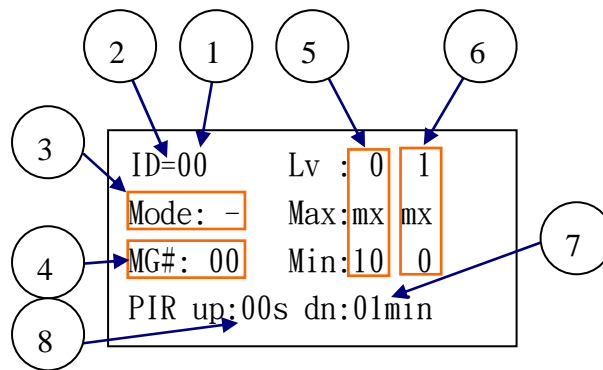

Figure 2.8: The LCD display showing PIR parameters of target devices
When the PIR sensor is equipped, user can define PIR parameter for power-on state. Please refer to Figure 2.8 and follow the steps described below.
- (1) Select ID number (0~63) of the target device.
- (2) Press the “OK” button. You can read the PIR power-on parameter of the target device with ID determined from position ① in Figure 2.8.
- (3) The location arrowed by ③ in Figure 2.8 represents the PIR working mode at power on.
- (4) The location arrowed by ④ in Figure 2.8 represents the Master Mode Group Number, which means that when PIR sensor is active, illumination of all DALI devices in group ④ will be enhanced. This setting affects only when ③ is defined as “M” (Master) mode.
- (5) The location arrowed by ⑤ in Figure 2.8 represents dimming range of the target device. By using this setting, the maximum and minimal illumination range will be can be defined. Note that, if the minimal level is not zero, the lamp can not be turned off completely.
- This dimming range applied at power on, when PIR ③ is defined as self or master mode.
- (6) The location arrowed by ⑥ in Figure 2.8 represents dimming range of target device. By using this setting, the maximum and minimal illumination range can be defined. Note that if the minimal level is not zero, the lamp can not be turned off completely.
- (7) When the target device operates on PIR self or master mode, human is continually not be detected, the illumination will decrease gradually to the minimal level within the minutes defines in ⑦. The minimal level is select from ⑤ or ⑥ field.
- (8) When the target device operates on PIR self or master mode, human be detected, the illumination will be enhanced to the maximum level. The time to enable the PIR is defined in ⑧. The maximum level is selected from ⑤ or ⑥ field. For better dimming effect, try to change Fade-time parameter in Section 2.3.7. The suggested value is 2 or 3.